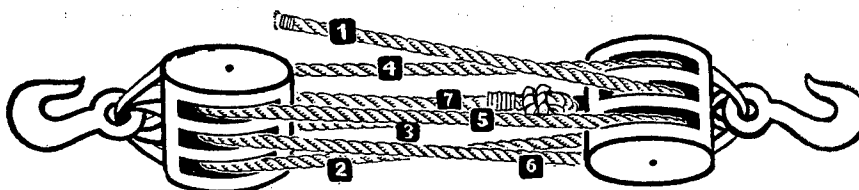

FIGURE 5.—Reeving—triple and triple.
- Lay blocks and follow numbered steps in figure 5.